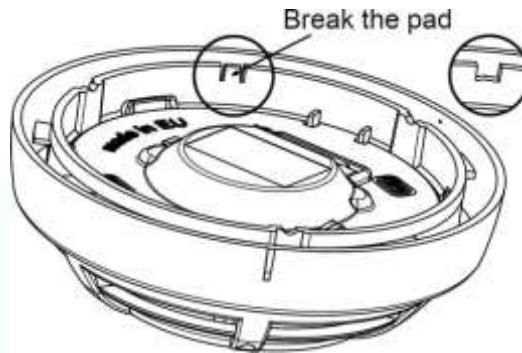

Fig.3
- Break the plastic at the specified location on the bottom of the sensor (Figure 3).